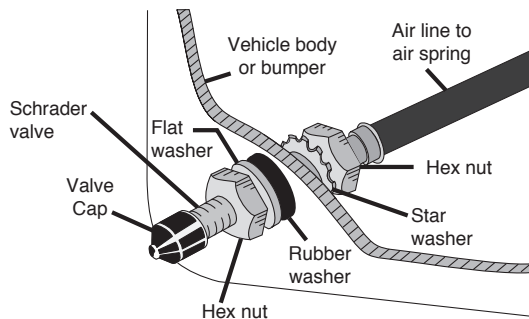

fig. 15
- Route the air line along the frame to the fitting on the air spring (Fig. 15). Keep AT LEAST 6" of clearance between the air line and the exhaust system. Avoid sharp bends and edges. Use zip ties to secure the air line to fixed points along the chassis. Be sure that the tie straps are tight, but do not pinch the air line. Leave at least 2" of slack to allow for any movement that might pull on the air line.